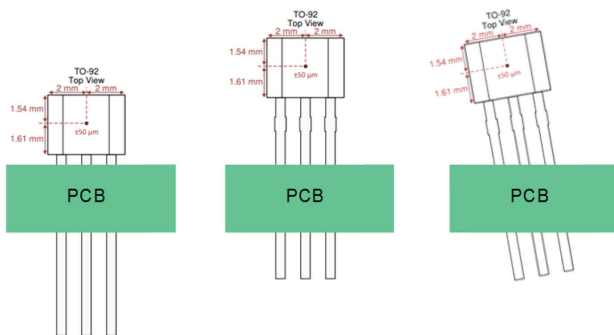

**Figure 5.** Example sensing locations in SOT-23 and X2SON packages.
**Figure 5** shows the location of the sensing element within a device’s SOT-23 and extra-small outline no-lead (X2SON) surface-mount package options. If applying a magnet 5 mm above the PCB, the distance from the magnet to the sensing element would be smaller in the SOT-23 package (4.35 mm) than in the X2SON package (4.75 mm), giving the SOT-23 package a larger magnetic flux density magnitude than the X2SON package.